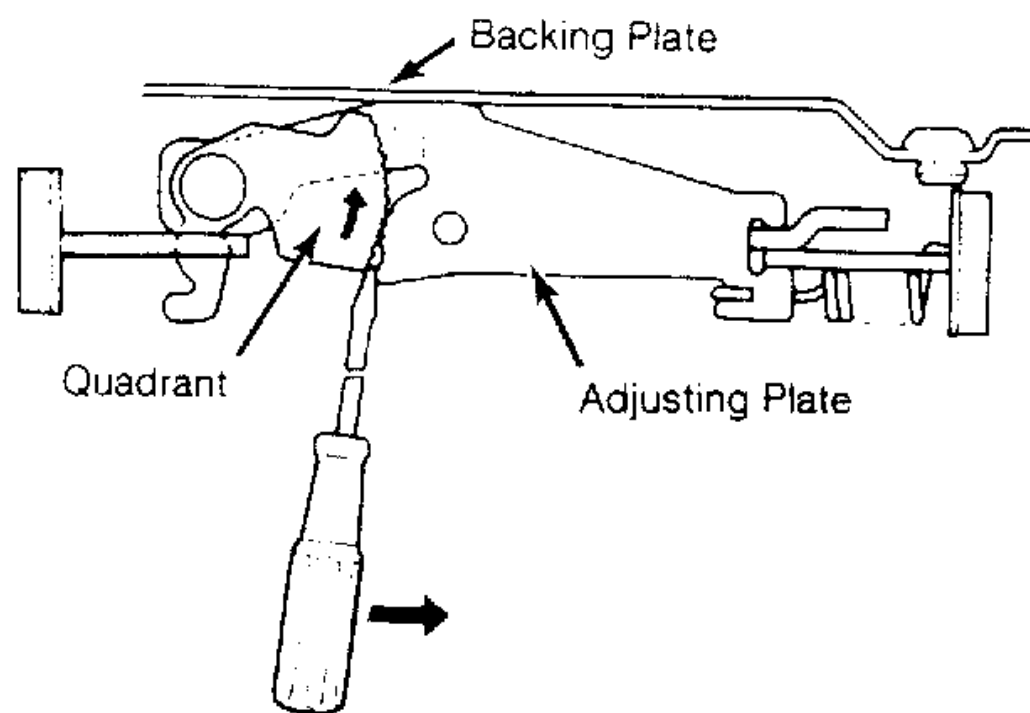

Fig. 2: Moving Quadrant on Drum Brake Adjuster (Festiva)
1. Raise and support vehicle. Release parking brake. Unstake and remove axle lock nut. Remove brake drum. Insert screwdriver between adjusting plate and quadrant. See Fig. 2 . Twist screwdriver to disengage teeth.